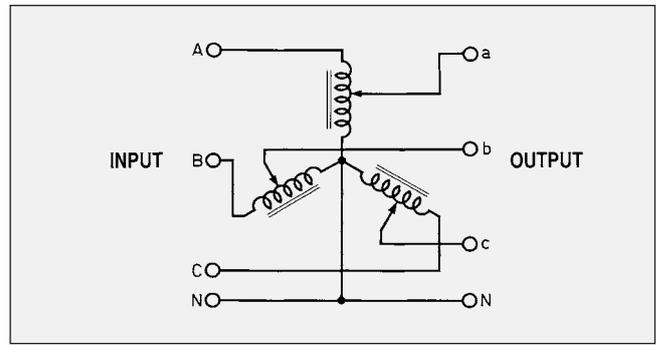

Fig. 43 - Three-gang star connection
**Three-phase — star connection (Fig. 43)**